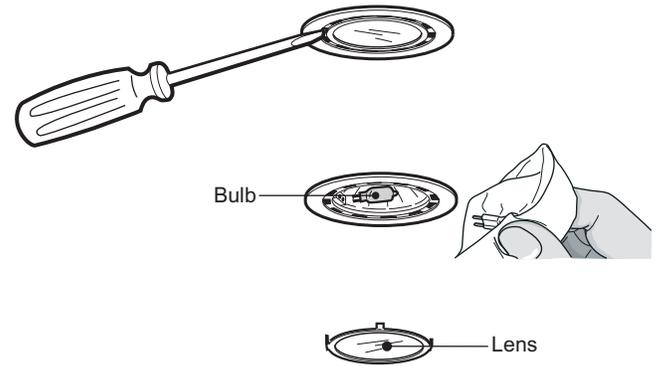

Figure 6: Halogen Light Replacement
2. Using a flat edge from a screwdriver or equivalent tool, pry loose the lens cover, as shown in *Figure 6*.